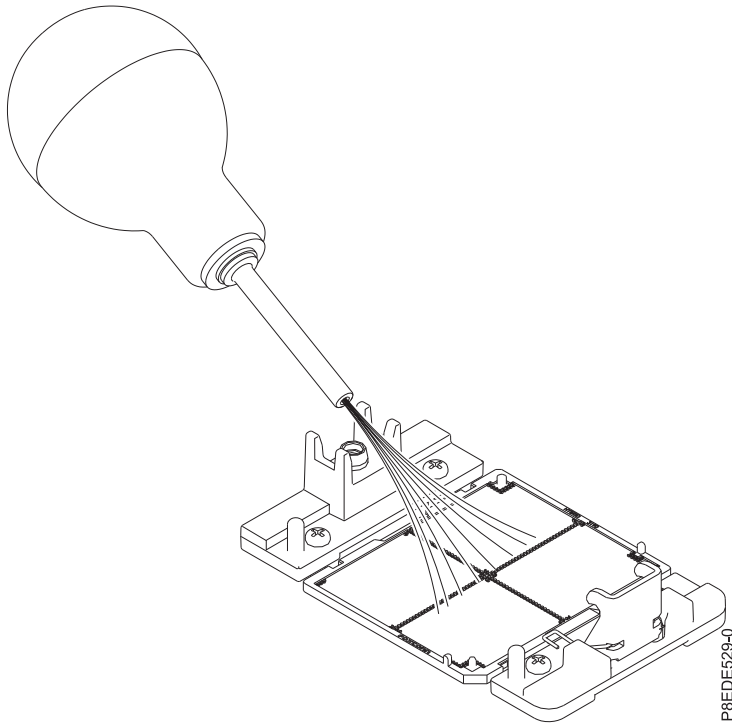

Figure 128. Removing dust and debris from the system processor socket
- a. If dust or debris is present on the system processor socket, use the supplied air pump (part number 45D2645) to clean the socket. Blow small bursts of air from the center toward the sides of the socket, as shown Figure 128 on page 110.